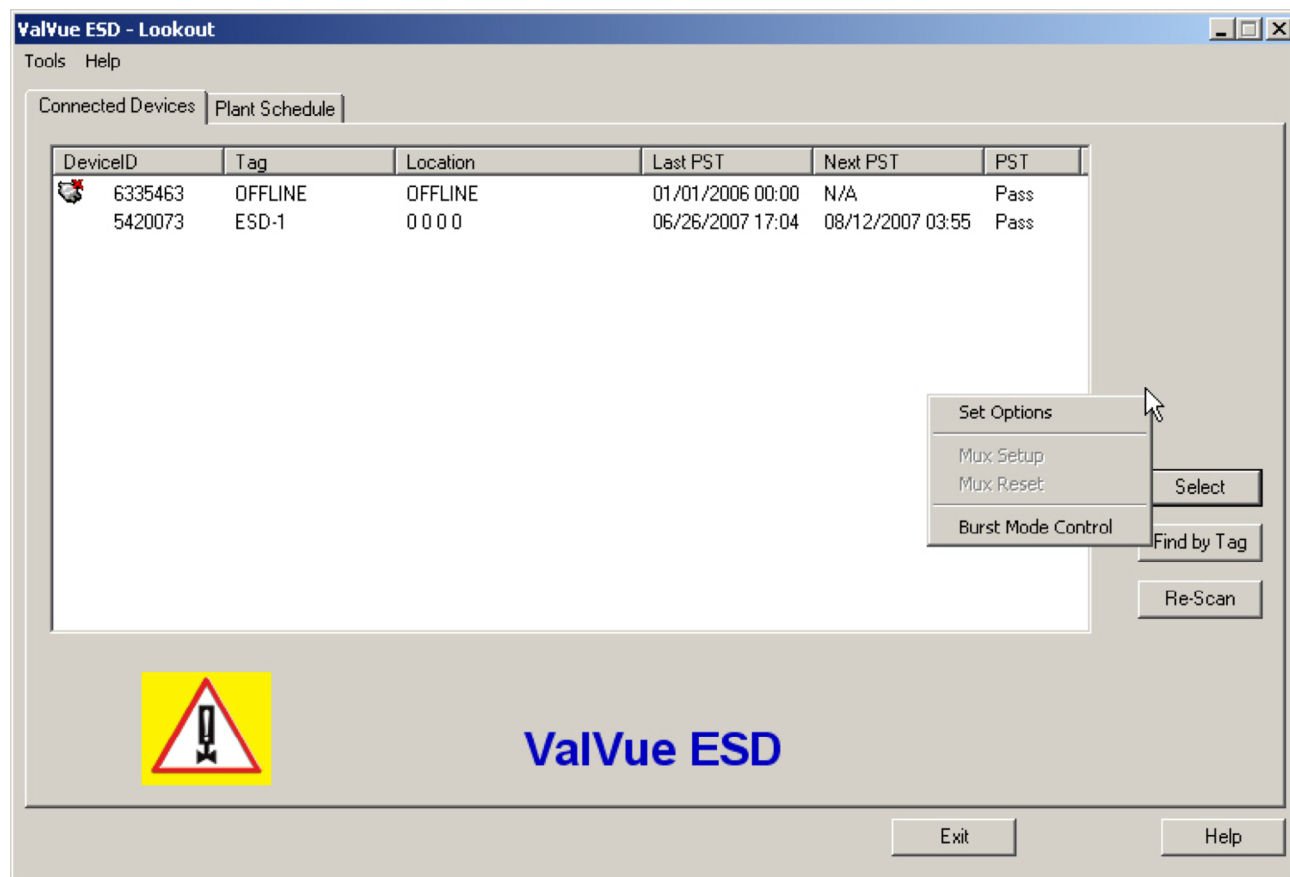

Figure 47 - Launching Set Options
1. Right-click to open the context menu (*Figure 47*) and select **Set Options** to open the *Options* dialog.